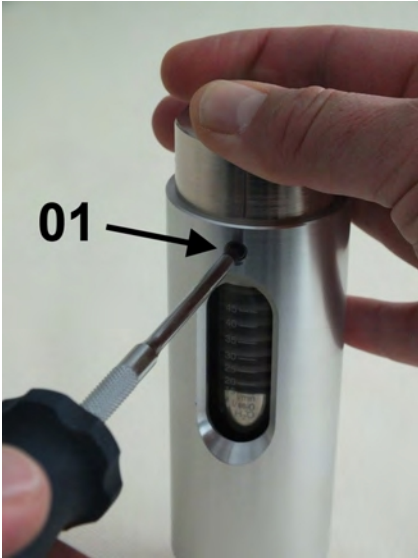

Fig. 50: Tighten hex socket screws
14. Tighten the 3 hex head screws (Fig. 50/1), observing the proper torque (↪ *Chapter 11.1 “Tightening torque” on page 80*).